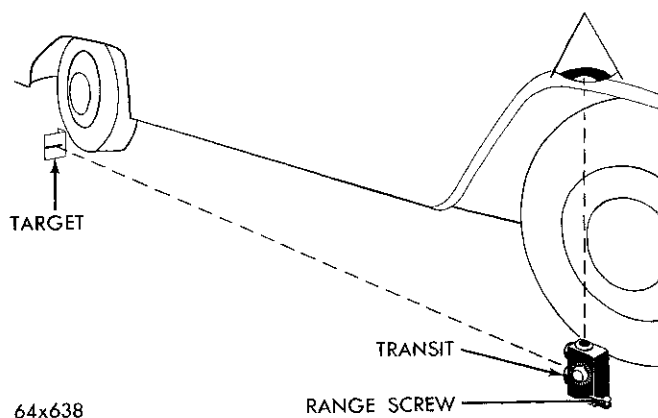

Fig. 1—Determining the Slope of the Floor
(1) Place the transit on the floor in line with a vertical center line of the right front wheel (Fig. 1). Place the split image target in like position at the right rear wheel.
(2) Adjust the range screw on the transit until the target split image coincides or merges into one unbroken line.